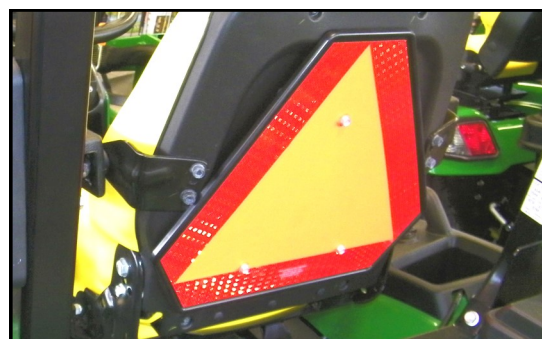

Fig. 1.1b (SMV sign mounted to the Seat)
(1) SMV sign (Slow Moving Vehicle) mounted to the back of the seat. Save the SMV sign for reuse and discard the bolts. See Fig. 1.1b